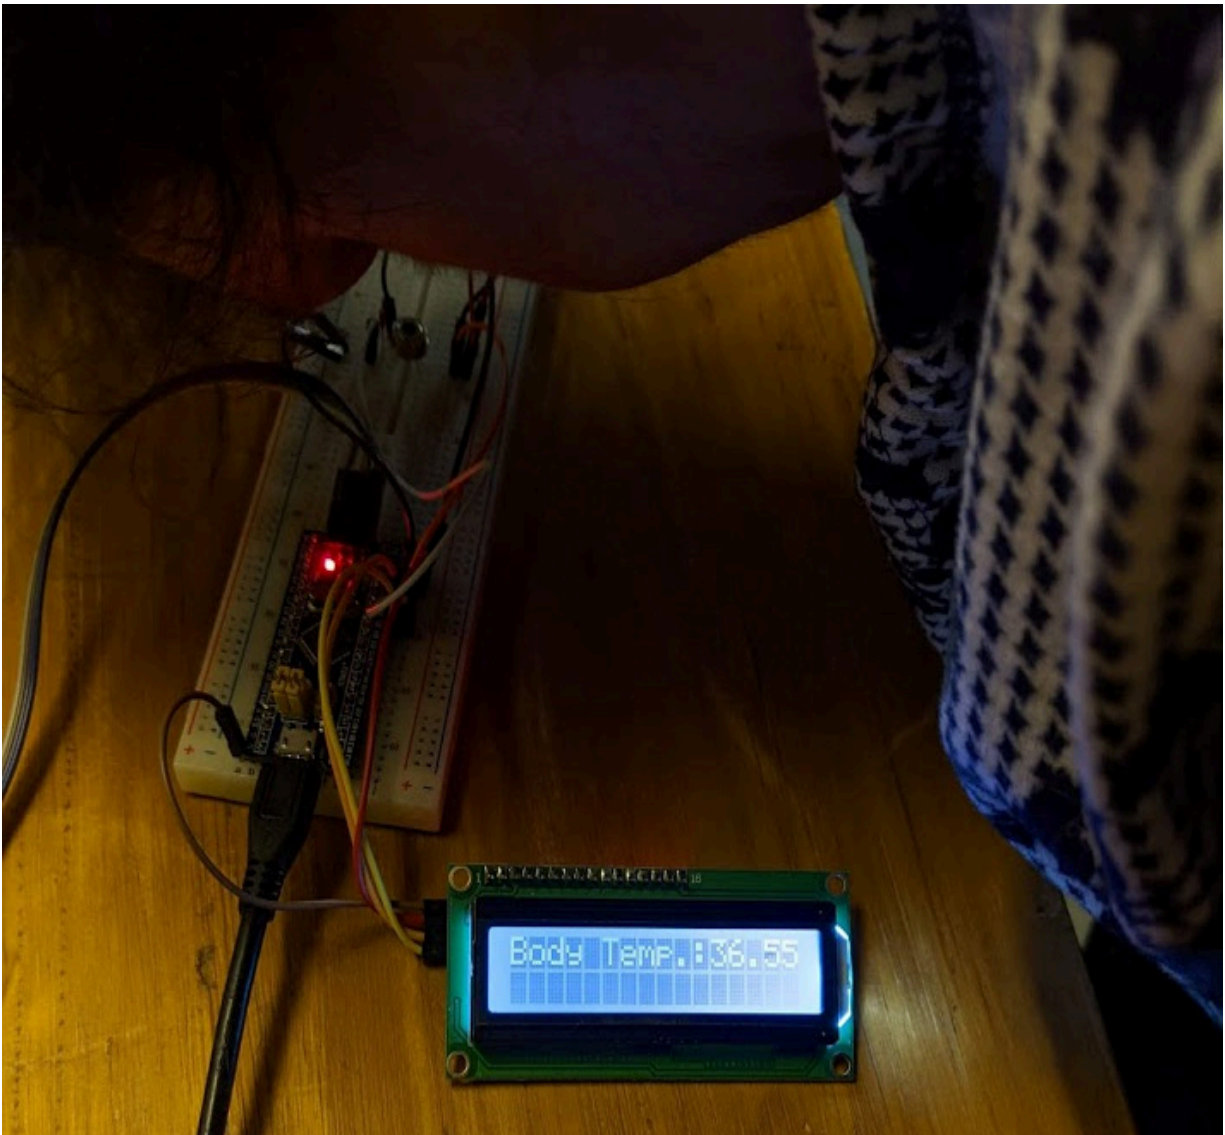

Figure 12.11 – Measuring the temperature
*Figure 12.11* shows a person testing the IR sensor:
As *Figure 12.11* shows, the measured temperature was 36.55 degrees Celsius, which is within the normal range for adults. The tester needed to place her forehead close to the IR sensor to get reliable measurements. The distance between the forehead and the sensor can be increased by using a mirror tube placed on top of the sensor to steer the IR light through it.